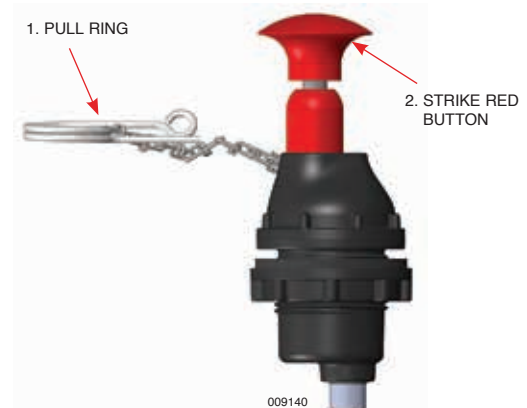

FIGURE 7-1
- Open guard door on CHECKFIRE 110 Control Module (break visual seal), and push the “PUSH To Activate / Alarm When Lit” button, see Figure 7-1.
- Pull ring pin and strike red strike button on an Electric Manual Actuator (EMA), see Figure 7-1.